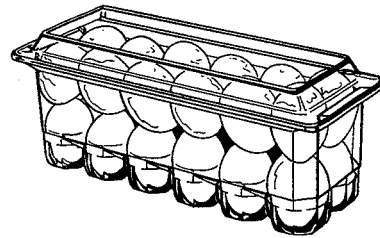

Figure 11.
- Some models have a take-to-the-counter egg tray or bucket. See Figure 11.